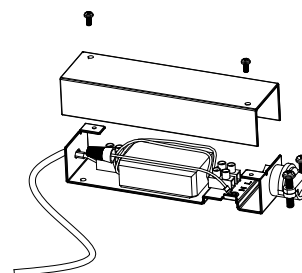
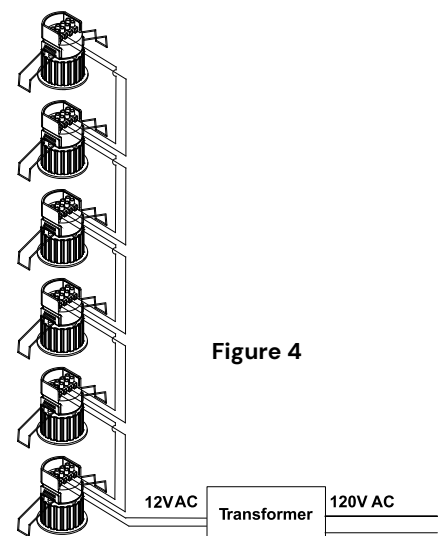

Figure 3
Figure 4
- Follow wiring diagram for electrical connections. Maximum: 6 fixtures per transformer (Figure 3 and Figure 4).